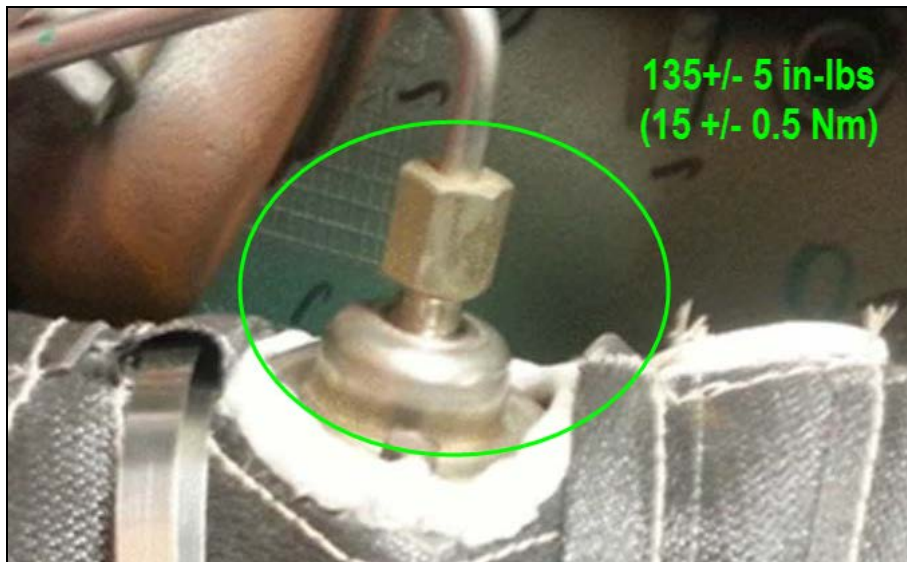

Figure 5
- 6) Reconnect the fuel line to the AHI nozzle (Figure 5) and torque the hexagonal fitting to 135 ± 5 in-lbs. (15 ± 0.5 Nm).